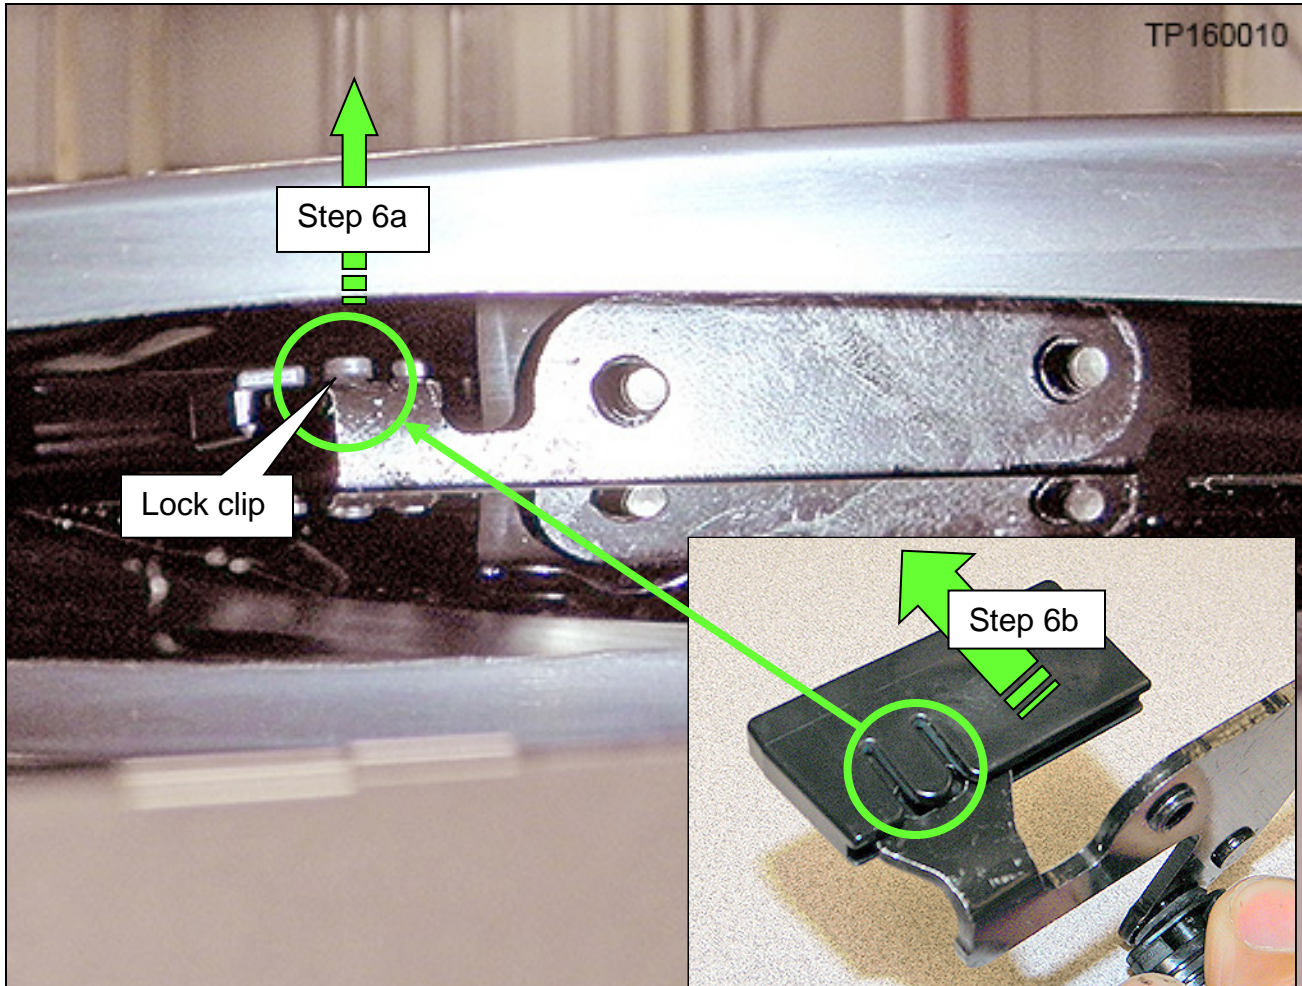

Figure 38
6. Remove the right and/or left knocks (Figure 38).